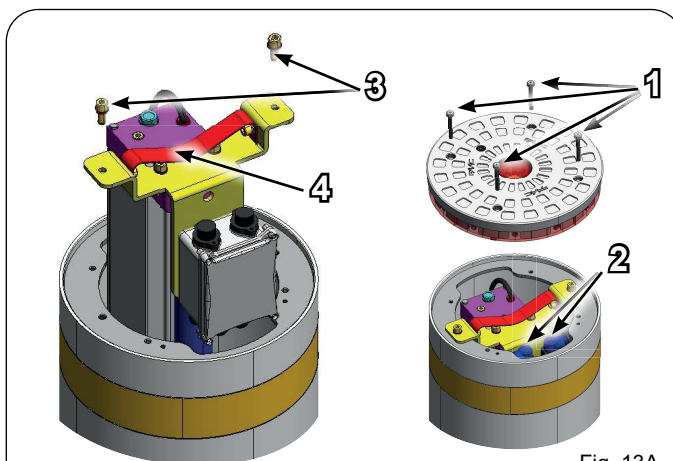

Fig. 13A
The closing screw on the bollard head can also be tightened upside-down to prevent access to manual hydraulic lowering. This operation has to be performed, of course, after having removed the head by unscrewing the 4 securing screws (see fig. 13A ref.1)